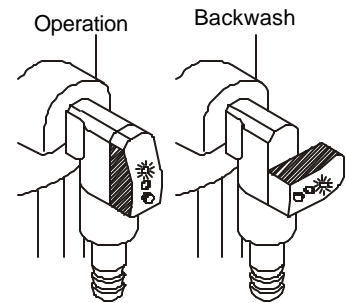

Figure 6
- ⌘ Slowly rotate the activation handle from the “Operation” position to the “Backwash” position (figure 6). After a few seconds rotate the handle back to the “Operation” position.